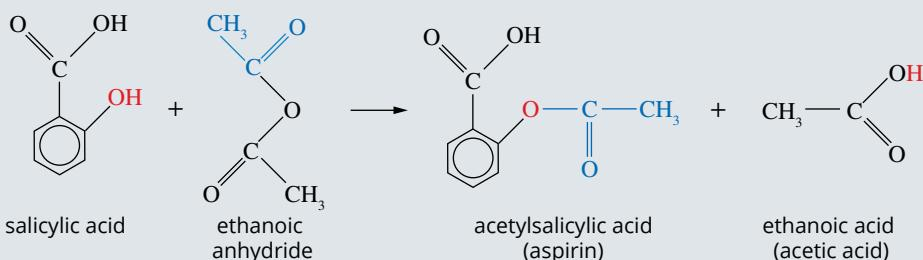

FIGURE 11.7.1 The synthesis of aspirin from salicylic acid and ethanoic anhydride.
- 18** Aspirin can be synthesised by an esterification reaction according to the pathway shown in Figure 11.7.1.